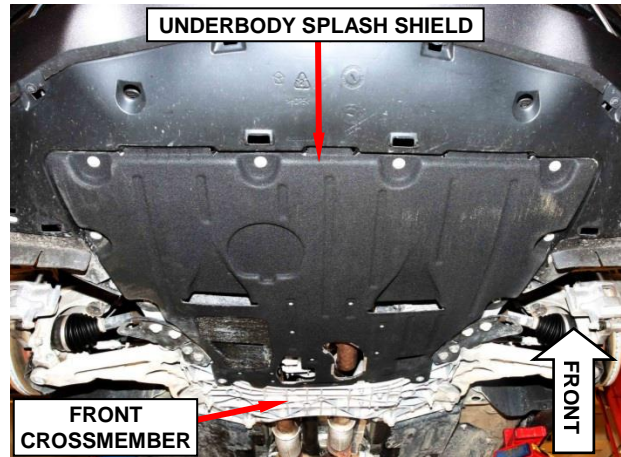

Figure 7 – Underbody Splash Shield
10. Remove and save the underbody splash shield fasteners and splash shield (Figure 7).
23. Install the underbody splash shield and fasteners. Tighten the fasteners to 53 in. lbs. (6 N·m) (Figure 7).